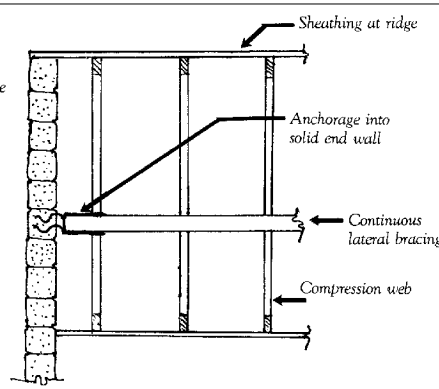

Figure 2. Trusses can be anchored to a solid end wall to secure lateral bracing of the web members.
1. Anchoring to solid end walls, such as reinforced block (Figure 2).